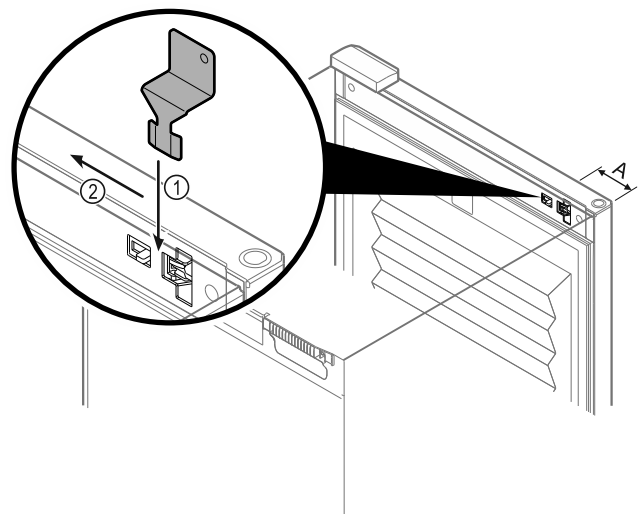

Fig. 228
- ▶ Position the emergency unlocking key in the location shown Fig. 228 (A) ≈ 100 mm.
- ▶ Insert the emergency unlocking key from above between the door and the appliance body as far as it will go Fig. 228 (1).
- ▶ Drag the emergency unlocking key toward the hinge side Fig. 228 (2).